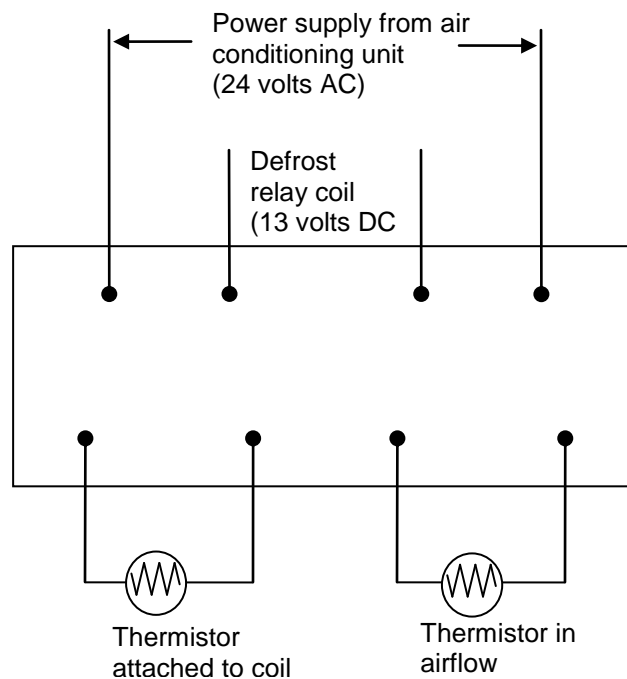

FIGURE 1: Schematic Diagram Of Wiring For A Solid State Defrost Module
Passage 1 below might be used for troubleshooting a problem with an air conditioning system. It describes a device (solid-state module) and how it works. Figure 1 is a schematic diagram which shows, in a simplified way, the electrical wiring.
A solid-state defrost control module is used to start and stop the defrost cycle of a heat pump. Defrost control keeps the outdoor coil of the pump clear of frost resulting in greater unit efficiency. Figure 1 shows a schematic of a defrost module with DC relay and two thermistors. The DC relay stops the outdoor fan motor and energizes the reversing valve. When the reversing valve is energized, the refrigerant cycle runs in the cooling mode of operation and defrosts the outdoor coil.
Figure 1 adds a simple diagram to show the wiring connections, power source and devices so you have a picture of how the module operates.
- It directs you to a diagram (Figure 1) and tells you what to look at;
To evaluate *how*, *when* or *whether* to use any information, you really have to read **everything** available to you. For example, did you read the information following Figure 1 at the bottom of the diagram? If not, read it now. In addition to providing a picture, the diagram may also direct your task in some way.